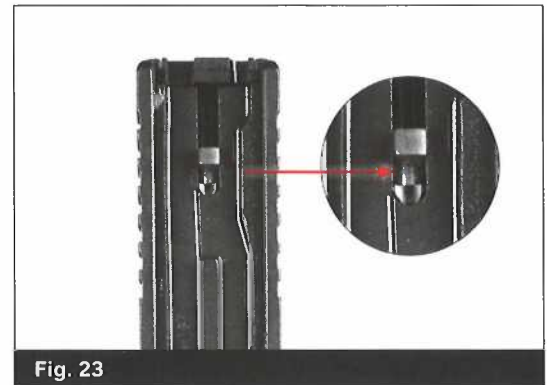

Fig. 23
- Insert the pin punch under the firing pin lug and on top of the firing pin spacer sleeve (black polymer visible just under the firing pin lug). (Fig. 23)